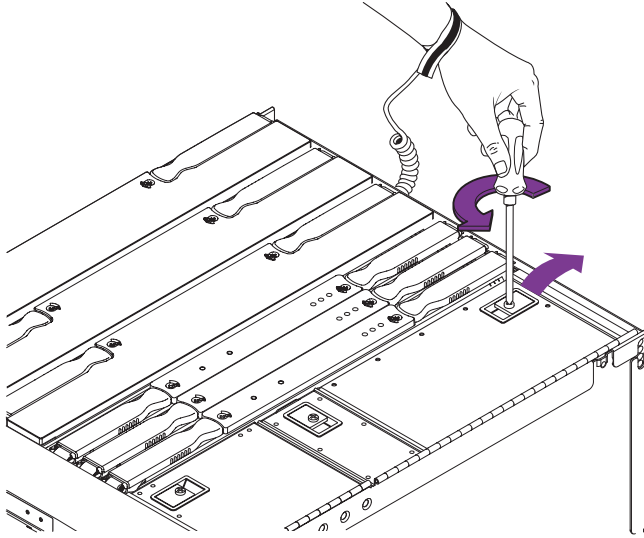

FIGURE 10-7 Opening the PCI Bay Cover
7. Open the PCI bay cover (FIGURE 10-7).